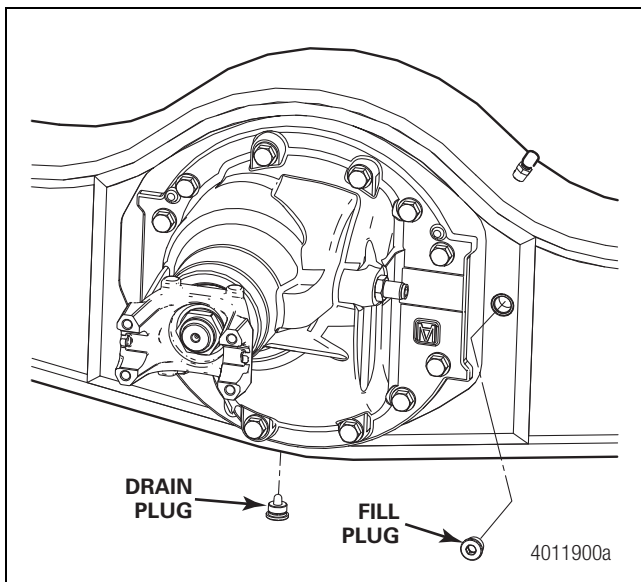

Figure 10.2
6. Place a drain pan under the housing drain plug. Remove the drain plug and allow the oil to drain completely from the axle housing. Figure 10.2.
1. Install the housing drain plug and tighten it to 60 lb-ft (81 N•m). Figure 10.2. **T**
4. Fill the center section of the axle to the bottom of the fill plug with Meritor-approved gear oil. Figure 10.2.